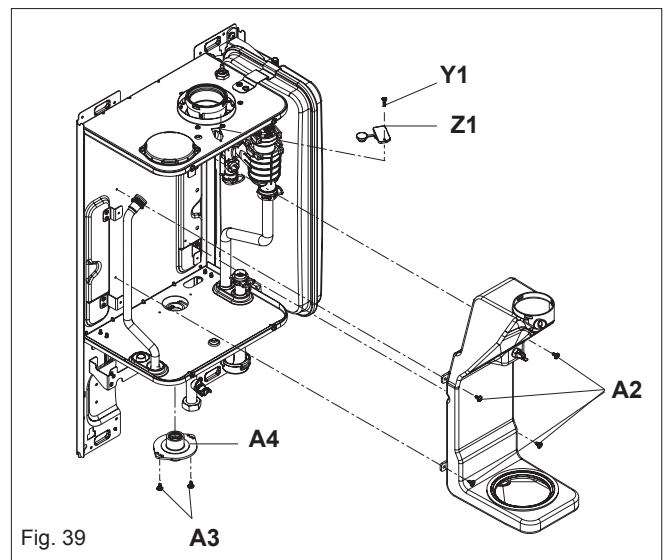

Fig. 39
## 6.20 FLUE COLLECTOR REMOVAL (fig. 39)
- Insert the flue gas analyser probe into the flue gas test point (see fig. 39).